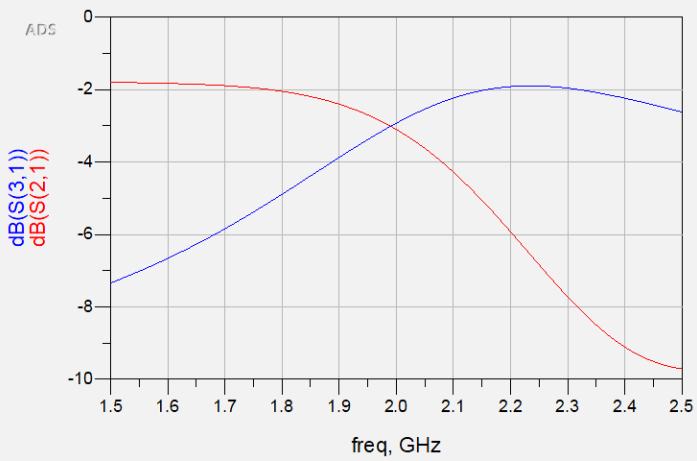
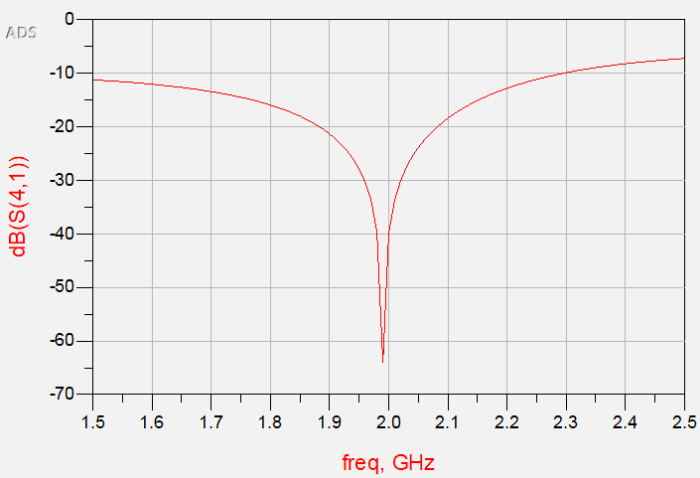
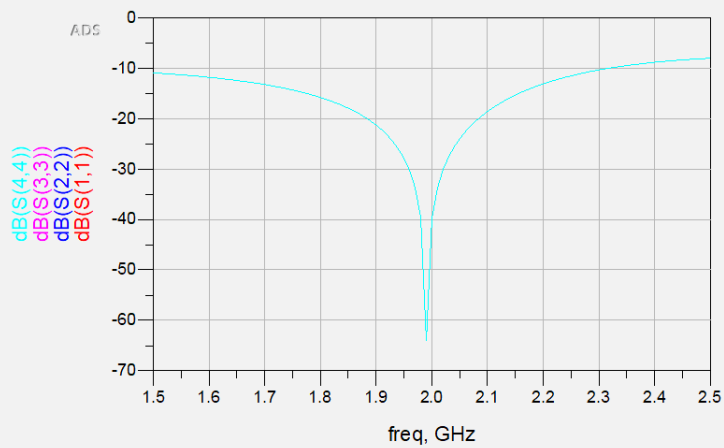

Figure 4. Output parameters of the lumped element coupler
Figure 5. Isolation port for the lumped element coupler
Figure 6. Reflection parameters for the lumped element coupler
4. Once the simulation is finished, plot the output –  $\text{dB}(S(2,1))$  and  $\text{dB}(S(3,1))$  – on one graph, as shown in Figure 4, and the isolated port –  $\text{dB}(S(2,1))$  – on another graph, as shown in Figure 5. Plot the all of the reflection parameters –  $\text{dB}(S(1,1))$ ,  $\text{dB}(S(2,2))$ ,  $\text{dB}(S(3,3))$ , and  $\text{dB}(S(4,4))$  – on another graph, as shown in Figure 6.
Figure 4 shows about 3 dB loss through each of the output ports at the operating frequency of 2 GHz. This aligns with expectations, as -3 dB corresponds to half power, which means that the power is being split equally between the output ports. Figure 5 shows that there is very little power going into port 4 at the design frequency, which is the isolation port. Figure 6 shows that there is very little reflection happening into each of the ports at the design frequency.